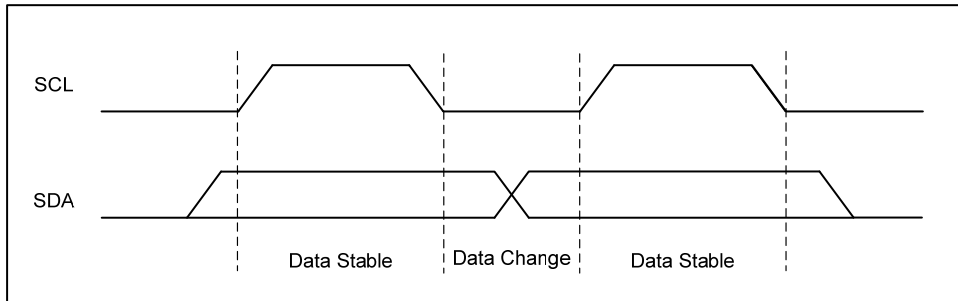

Figure1 Data Validity
**CLOCK and DATA TRANSITIONS:** The SDA pin is normally pulled high with an external device. Data on the SDA pin may change only during SCL low time periods (see to Figure 1). Data changes during SCL high periods will indicate a start or stop condition as defined below.